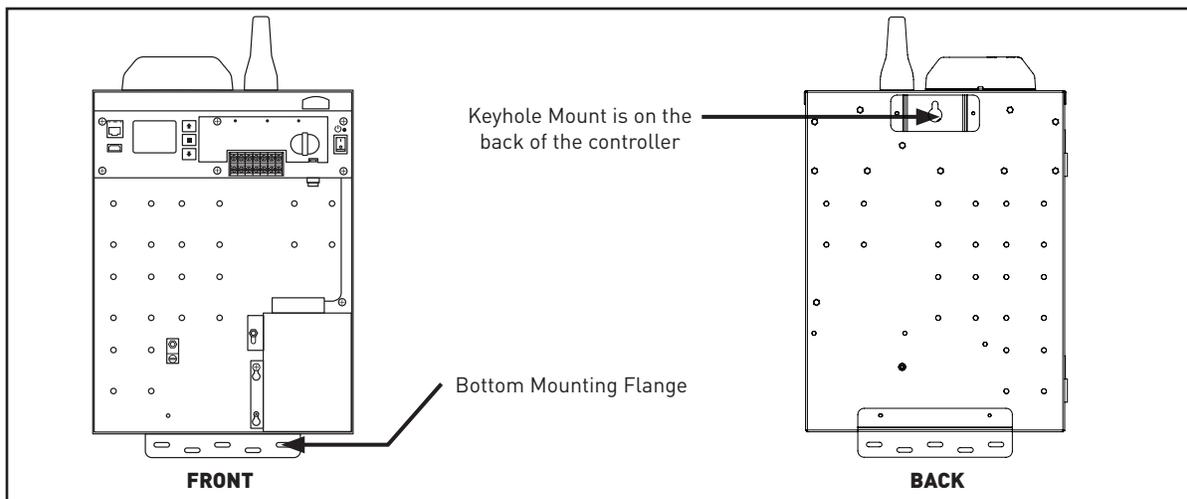

Figure 3. Mounting The HSC Controller
Step 4 – Place a level on the controller. Keep the controller level while marking two of the appropriate holes on the bottom mounting flange. (See Figure 3)